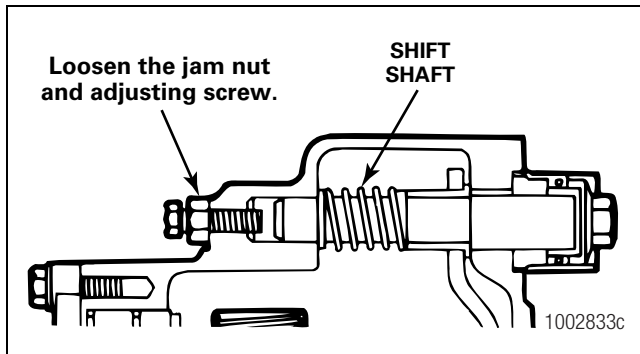

Figure 5.116
- **For fasteners with standard flat washers:** Tighten the fasteners to 150-230 lb-ft (204-312 N•m). ①
- **For fasteners with Nord-Lock® washers:** Tighten the fasteners to 210 lb-ft (287 N•m). ①
13. Install the washers and tighten the capscrews that fasten the output bearing cage to the axle housing. Tighten the capscrews to 35-50 lb-ft (48-67 N•m). ①
- A. Loosen the jam nut on the adjusting screw. Loosen the adjusting screw so that the screw does not touch the shift shaft. Figure 5.116.